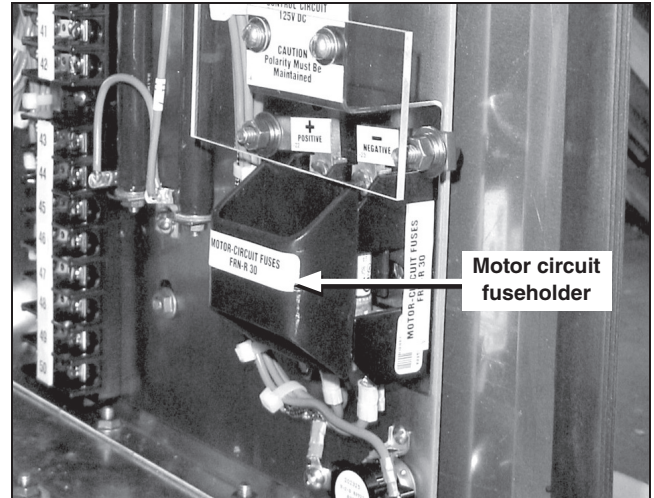

Figure 3. Remove the motor circuit fuseholder.
- STEP 1.** Remove the two-pole pull-out fuseholders for the motor (and space heater, if furnished). See Figure 3.
- STEP 2.** Pull the latch knob on the hub of the MANUAL OPERATING handle and pivot the handle forward slightly from its **Storage** position. See Figure 3.